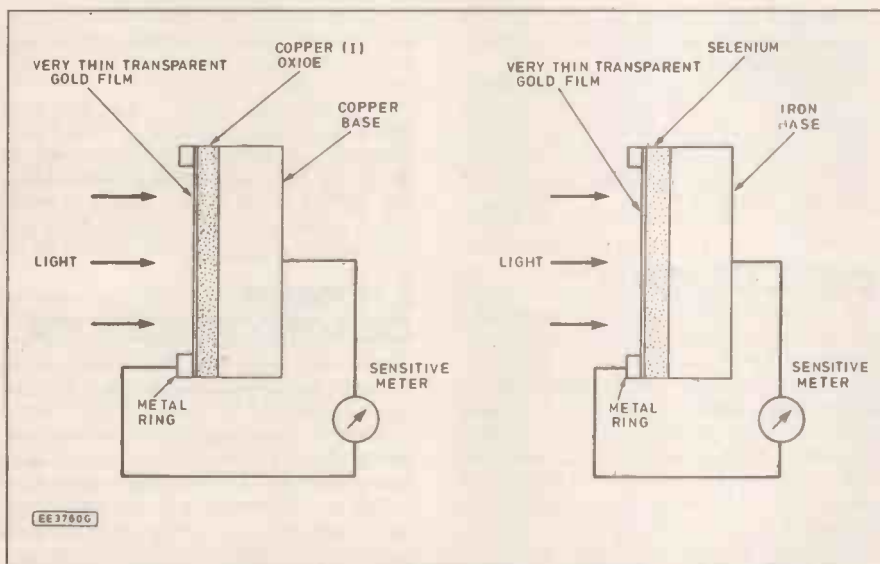

Fig. 2. Early photovoltaic cells.
A different approach is to use solar cells to convert the sun's energy directly into electricity without going through the steam stage. This uses a phenomenon called the photovoltaic effect. This was first observed by Antoine Becquerel in 1837 when sunlight shone on to one of his electrodes during an electrolysis experiment. The first "serious" devices, however, date from the 1870's and were based on the element selenium deposited on an iron base. More recently, a copper base coated with cuprous oxide – copper (I) oxide – was used (see Fig. 2).